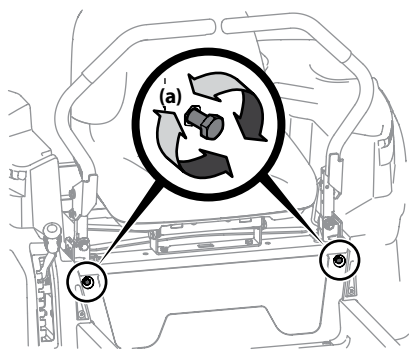

Figure 4-13
2. Locate the drive control lever stop adjustment bolts (a) on the front of the seat frame. See Figure 4-13.